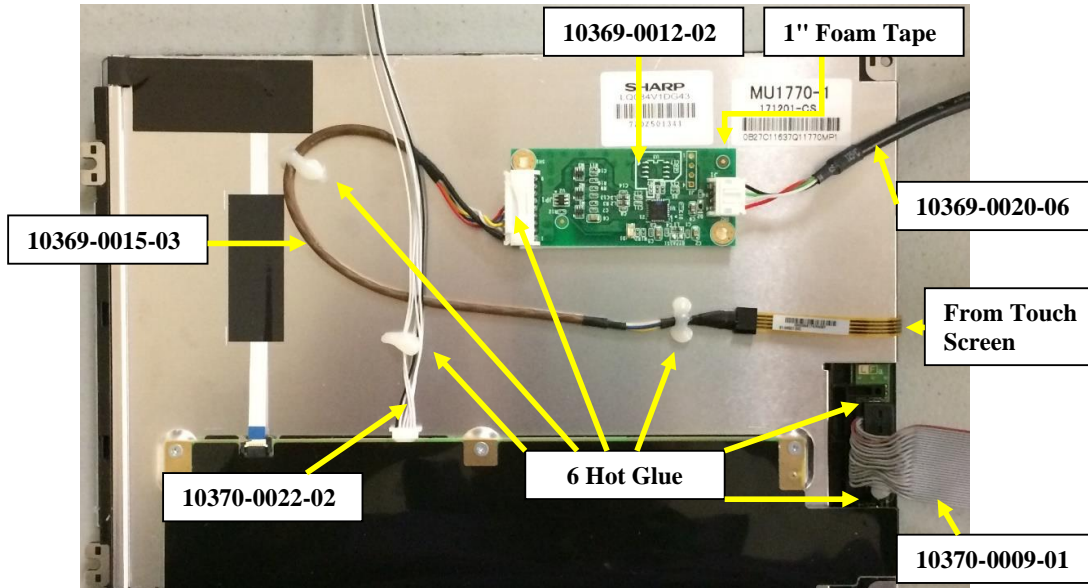

Figure 31
- 13.2. Attach 2" of 1" Foam Tape (McMaster.com part#7598A72 or equivalent) to the back of the Touch Controller (10369-0012-02). Place the Controller onto the Display as shown in Figure 31.
- 13.3. Attach one end of the Touch-to-Ctrl Cable (10369-0015-03) to Touch Screen and the other end to the Touch Controller as shown in Figure 31.
- 13.4. Attach the Penmount Touch Cable (10369-0020-06) to the open connector on the Touch Controller as shown in Figure 31.
- 13.5. Attach the Display Ribbon Cable (10370-0009-01) and Backlight Cable (10370-0022-02) to the display as shown in Figure 31.
- 13.6. Apply hot glue, as shown in Figure 31, to secure the Cables in position.